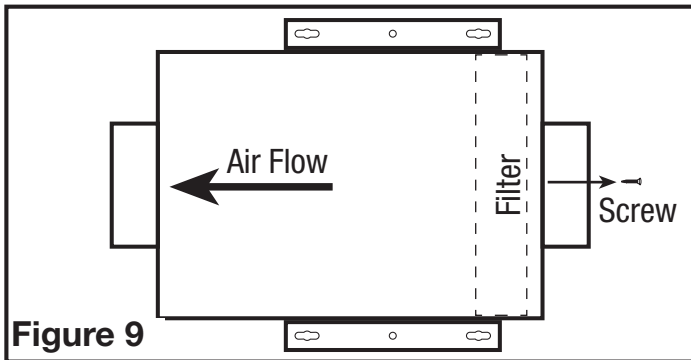

Figure 9
2. Ensure the filter is facing the correct way and slide the filter into the slot in the housing. Make sure the filter is seated all the way to the bottom of the housing (**Figure 9**).